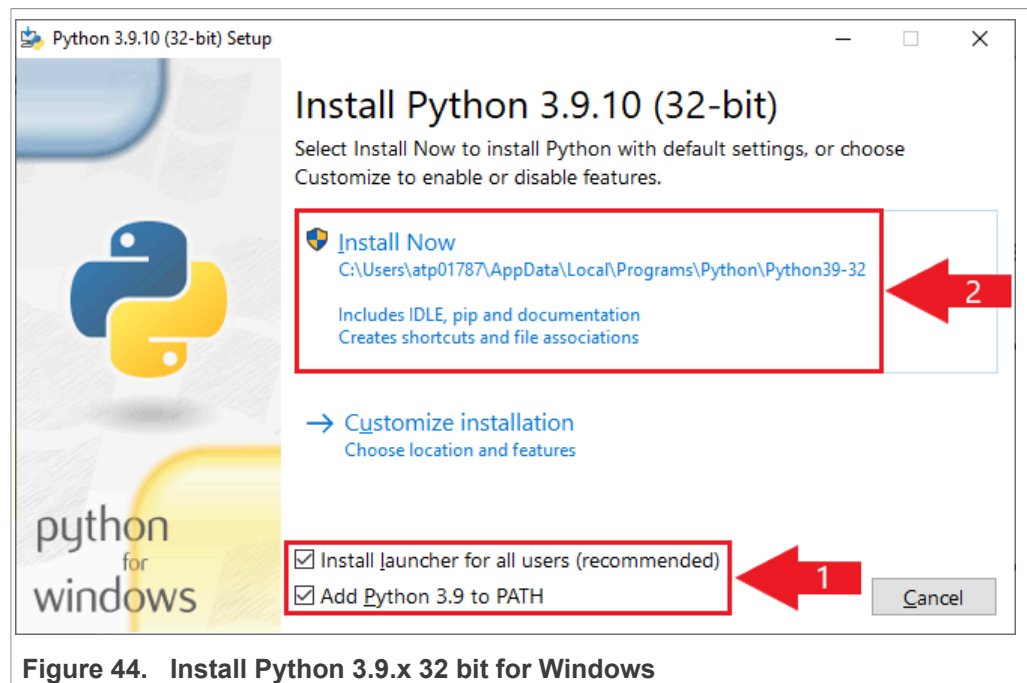

Figure 44. Install Python 3.9.x 32 bit for Windows
2. Double click on the downloaded installer file. Select the "Install launcher for all users" and "Add Python 3.7 to Path" options and click *Install Now* as indicated in Figure 44: